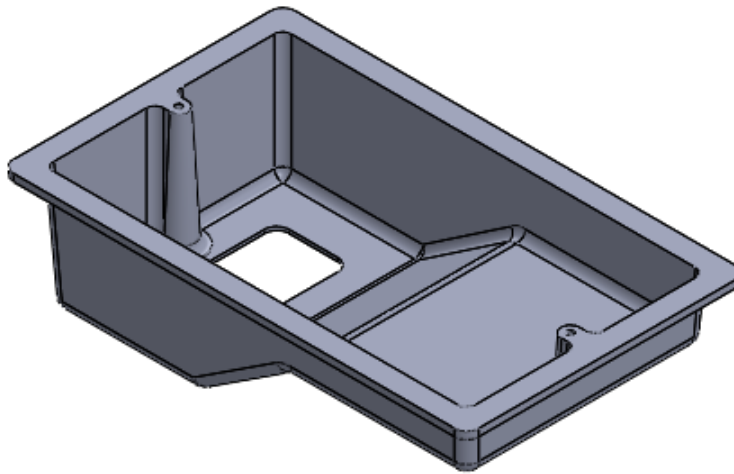

Figure 21-36 Final model of the Plastic Cover
- Start a new SOLIDWORKS document and then create the model of the plastic cover, refer to Figure 21-36.
3. Save the model. Figure 21-36 shows the final model created using the standard modeling tools.